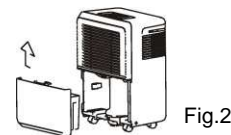

Fig.2
- Dump out water and replace the bucket. The bucket must be replaced properly for the unit to operate. (Fig.2)